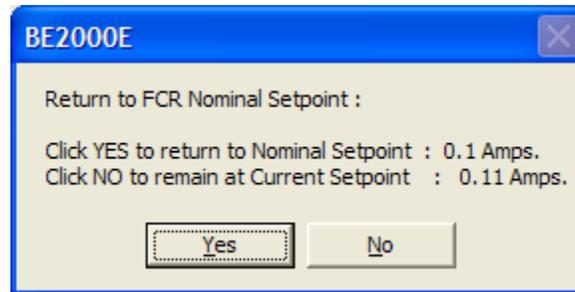

Figure 5-15. Message Box to Return to FCR Nominal Setpoint
*Field Current Step Response - Increment of FCR Setpoint (A)*. These two fields indicate the increase that occurs to the FCR setpoint when the corresponding *Increment* button is clicked. The "% increase" field is used to set and indicate the percentage that the FCR setpoint is increased when the *Increment* button is clicked. The "FCR Setpoint =" field indicates the value of current that corresponds to the "% increase" field. Any setpoint value within range and higher than setpoint value can also be typed into The "FCR Setpoint =" field which updates the "% increase" field also. The FCR setpoint changes to this value when the adjacent button is clicked. When clicked, the *Increment* button changes from gray to red to indicate that the FCR setpoint has increased to the value in the "FCR Setpoint =" field.
*Field Current Step Response - Decrement of FCR Setpoint (A)*. These two fields indicate the change that will occur to the FCR setpoint when the corresponding *Decrement* button is clicked. The "% decrease" field is used to set and indicate the percentage that the FCR setpoint is decreased when the *Decrement* button is clicked. The "FCR Setpoint =" indicates the value of current that corresponds to the "% decrease" field. Any setpoint value within range and lower than setpoint value can also be typed into The "FCR Setpoint =" field which updates the "% decrease" field also. The FCR setpoint changes to this value when the adjacent button is clicked. When clicked, the *Decrement* button changes from gray to red to indicate that the FCR setpoint has decreased to the value in the "FCR Setpoint =" field.
The setpoint value currently set in the unit by any of the above methods is displayed in the current setpoint textbox. To return to the nominal setting the button adjacent to *FCR Setpoint (I) (Nominal)* should be pressed. If the *FCR Analysis* screen is left without returning to nominal setpoint a message box is shown (Figure 5-15) which allows the user to return to nominal setpoint by pressing *YES* or remain at the current setpoint by pressing *NO*.